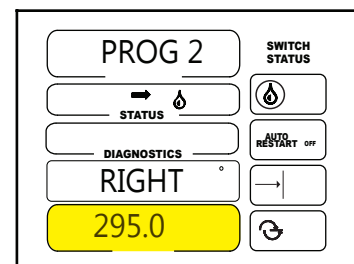

Figure 60-5
4. Set the right angle of the sector. See figure 60-5.